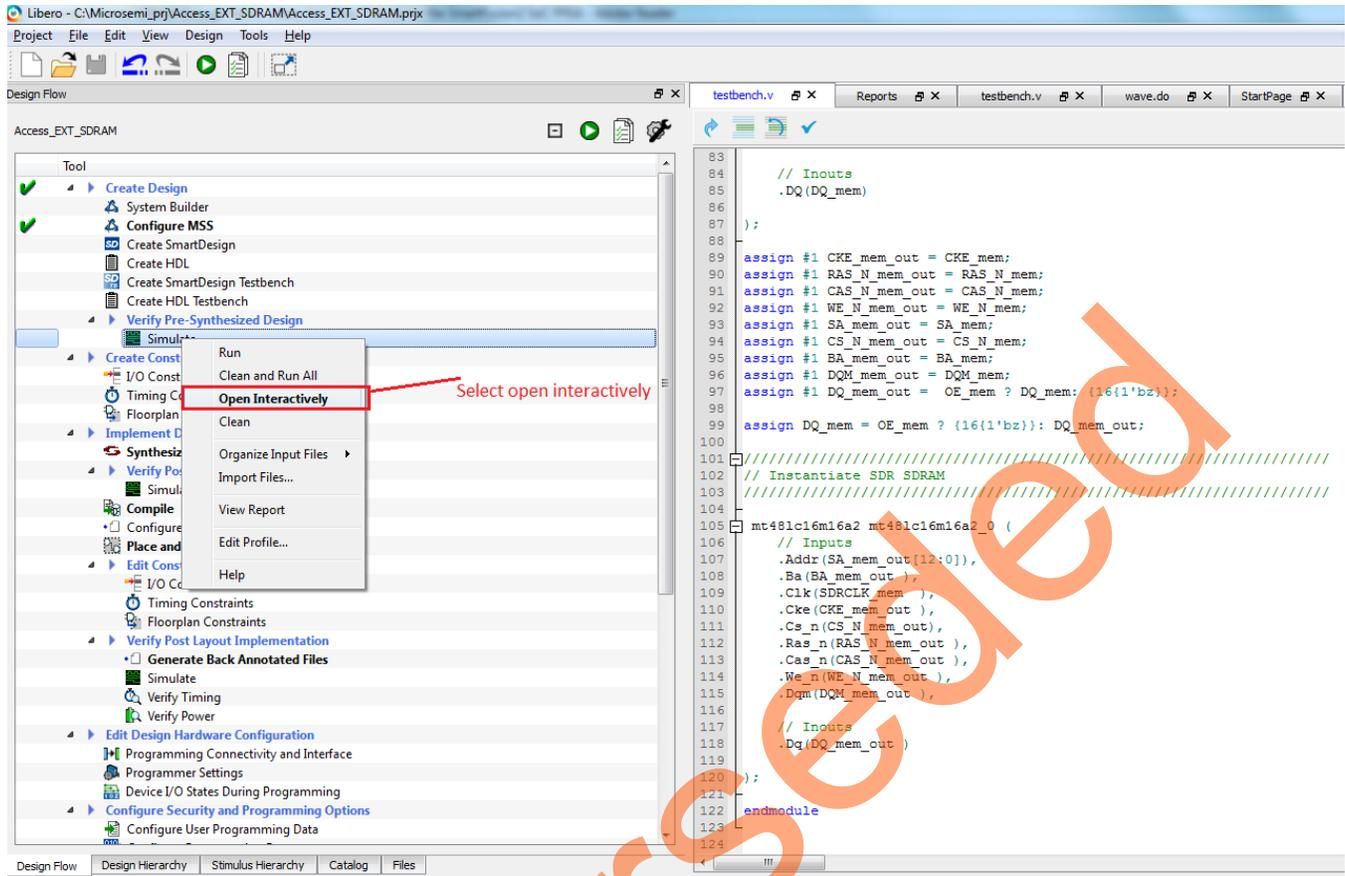

Figure 36. Invoke ModelSim
7. After specifying the testbench stimulus file, expand the **Verify Pre-Synthesized Design** option, select the **Simulate** option under it, right-click and select **Open Interactively** to invoke ModelSim, as shown in Figure 36. ModelSim is invoked and the design is loaded.